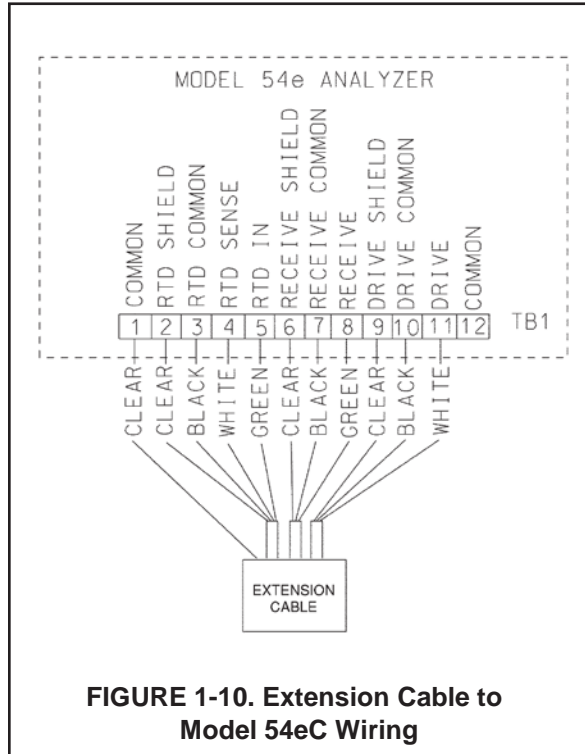

FIGURE 1-10. Extension Cable to Model 54eC Wiring
5. Connect the 11 wires of the instrument-end of the extension cable according to the applicable diagram from Figures 1-10 through 1-15.